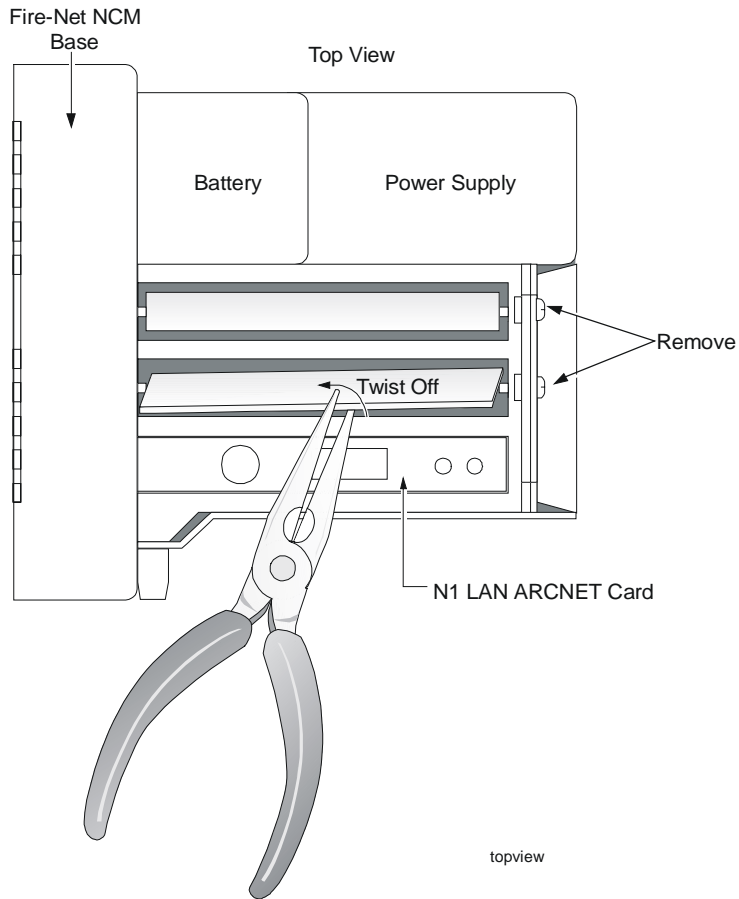

Figure 26: Removing the ISA Tabs
3. Twist out the two metal tabs that cover the ISA slot and other empty slot (Figure 26) if not already removed.